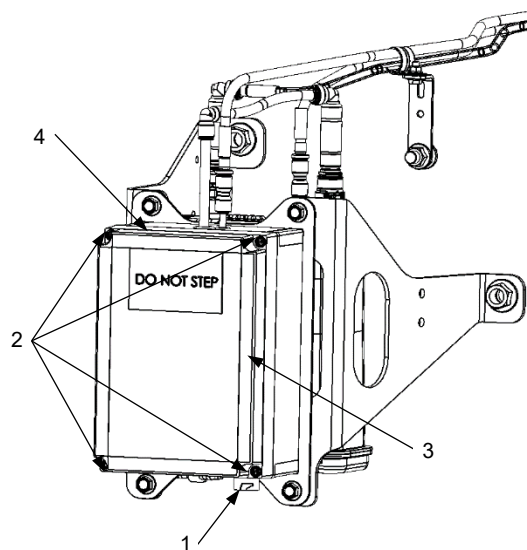

Figure 1: EVAP pump module box (4), cover (3), cover bolts (2), electrical connector (1).
4. Unplug chassis harness electrical harness (*not shown; refer to OEM procedure*) from EVAP plug electrical connector (1) on bottom of EVAP box (4). *Figure 1*
5. Remove four bolts (2) securing EVAP module front cover (3). *Figure 1*
6. Remove EVAP pump module box front cover (3). *Figure 1*